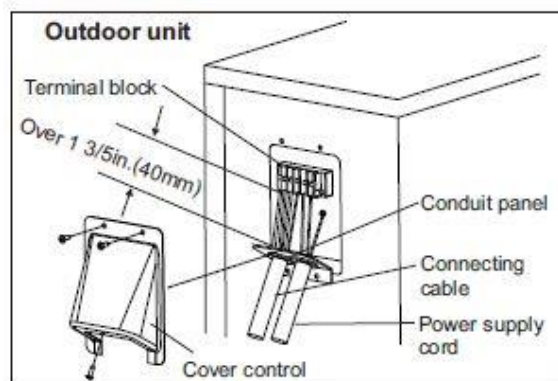

Fig.23
1. Remove the cover control from the unit by removing the 3 screws. See Fig.23.